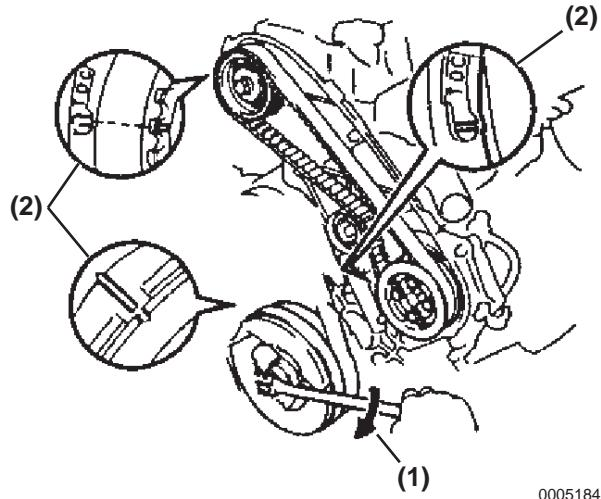

Figure 5-184
17. Turn (Figure 5-184, (1)) the crankshaft pulley clockwise to check if each pulley timing mark (Figure 5-184, (2)) matches with the top dead center (TDC) mark. If the timing marks never align disconnect the timing belt and reinstall it to with the correct alignment.